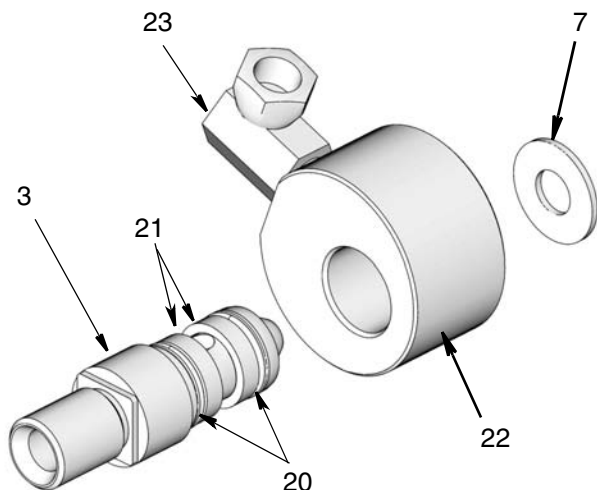

FIG. 6
9. Lay hose reel with spool side down so you can easily access the remaining installed guide arm and pedestal (24 / 30). Remove long bolt (18) and washers (15 / 16).
**NOTE:** The swivel assembly is held in place by the tension created when bolt (18) is tightened and securely in place. When this tension is removed by loosening the bolt, the swivel and swivel shaft assembly parts (3 / 22) and washer (7) may come apart (FIG. 6).